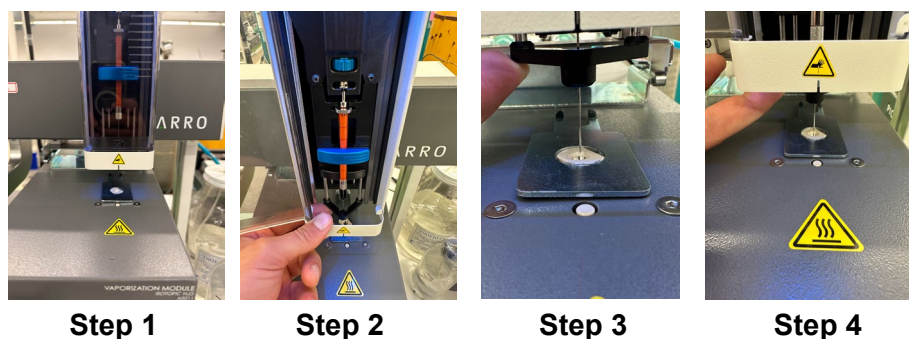

Figure 49: Autosampler Configurator/Injector Position
2. Manually move the tower above the injection point (top of the Picarro vaporizer), (**Step 1, Figure 49**).
3. Take the syringe holder between two fingers and move it downwards (**Step 2, Figure 49**).
4. Push the needle guide upwards and check if the needle is positioned in the middle of the injection point (**Step 3, Figure 49**).
5. If the needle is positioned in the middle of the injection point, move the z-axis further down. The needle will enter the injection point. Be careful not to damage the needle (**Step 4, Figure 49**).